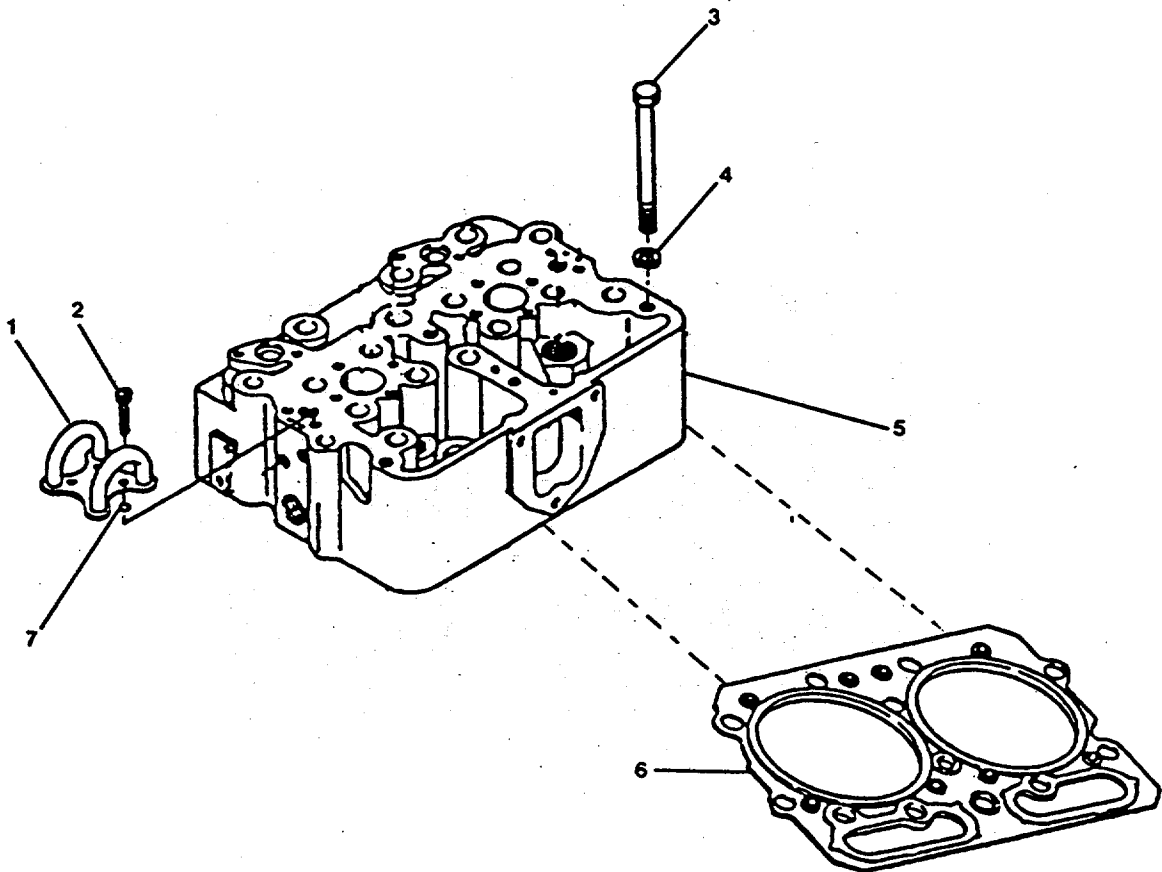

FIGURE 2-53. Cylinder Head Group.
**2-41. Replace/Repair Cylinder Head Group. (FIGURE 2-53)**